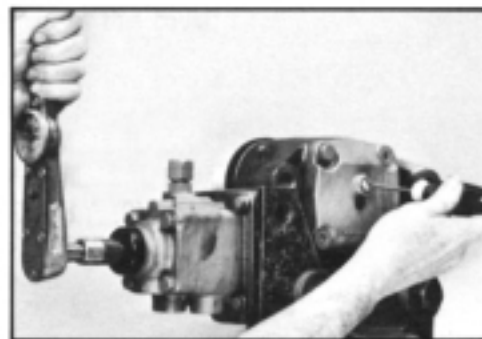

Figure 166
2. Tighten sector shaft adjusting screw (50) to provide 20-25 inch lbs. (2.3-2.8 N m) of torque required to rotate the worm shaft (23) through 90 degrees each side of center. SEE FIGURE 166.